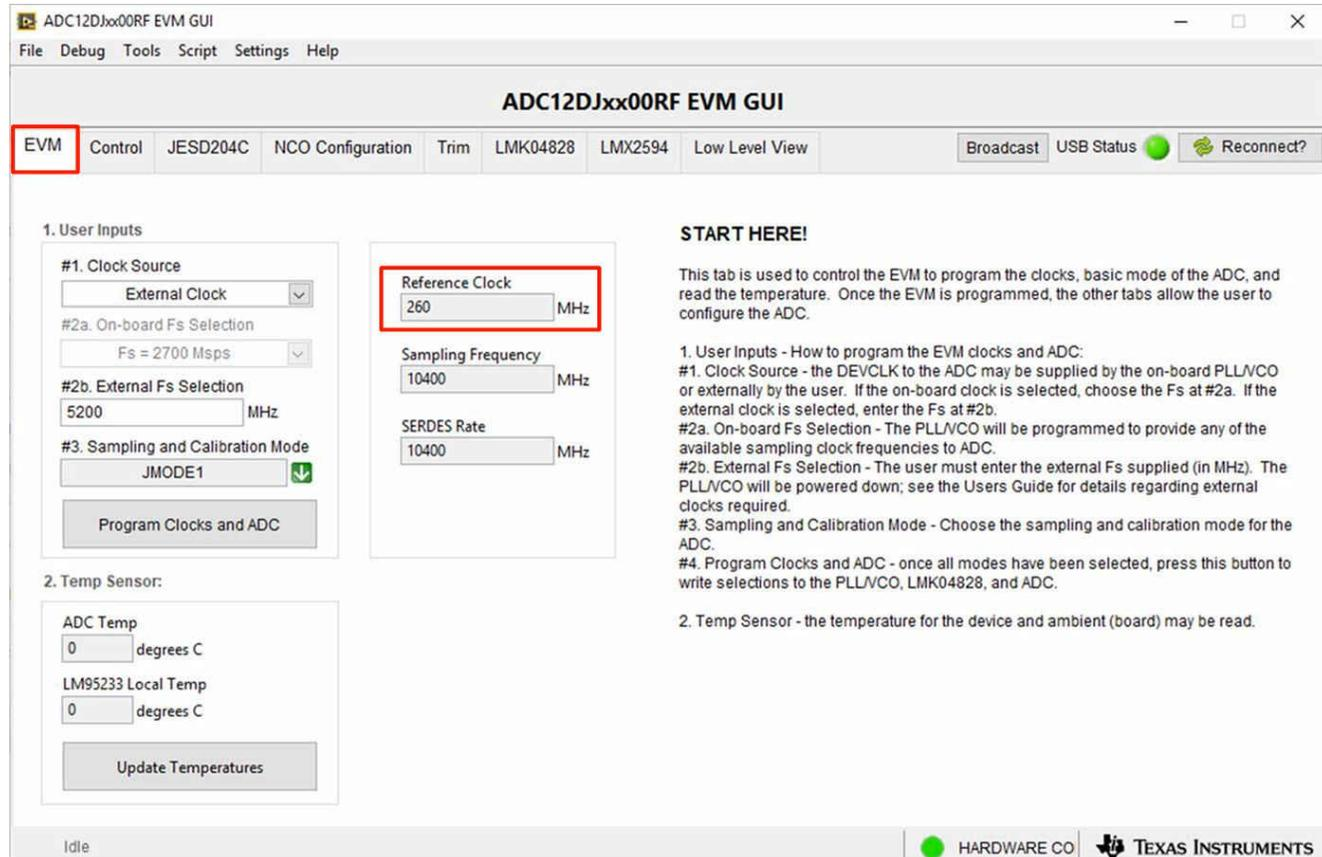
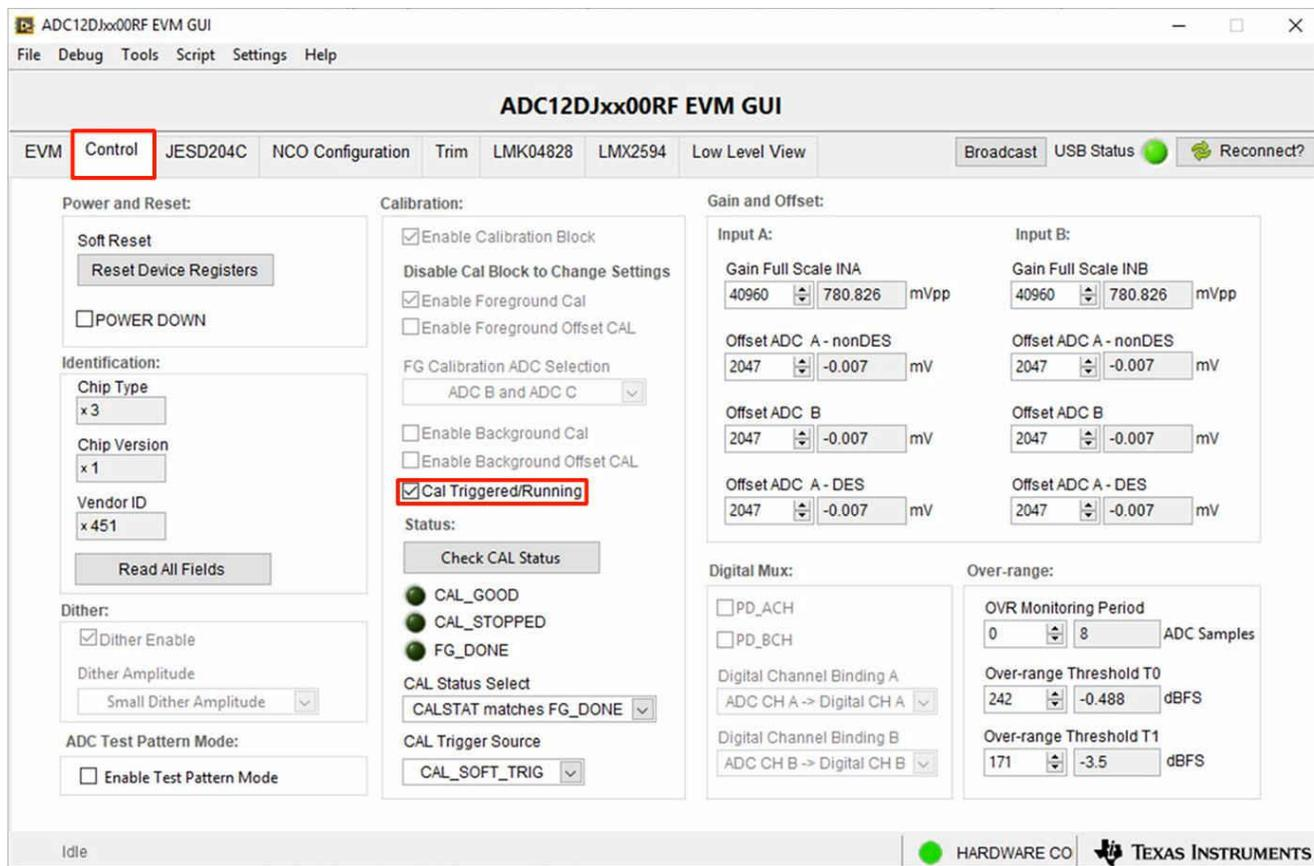

Figure 3-2. Configuration GUI EVM Tab
Figure 3-3. Configuration GUI ADC Control
- a. The reference clock frequency can be obtained from the ADC12DJ5200RFEVM GUI. Once the ADC12DJ5200EVM GUI is configured to the desired JMODE mode and clock rate. The reference clock frequency required by the EVM is displayed on the first page of the GUI shown with red square in Figure 3-2
Figure 3-2 and Figure 3-3 show the GUI open to the *EVM* tab and *Control* tab respectively. Tabs at the top of the panel organize the configuration into device and EVM features with user-friendly controls and a low-level tab for directly configuring the registers. The EVM has three configurable devices, namely the ADC12DJ5200RF, LMK04828, LMK61E2, and LMX2594. The register map for each device is provided in the device data sheet ([ADC12DJ5200RF 10.4-GSPS Single Channel or 5.2-GSPS Dual Channel, 12-bit, RF, LMK0482xB Ultra Low-Noise JESD204B Cmplnt Click Jitter Cleaner w/ Dual Loop PLLs](#), and LMX2594 15-GHz Wideband PLLatinum™ RF Synthesizer, respectively).